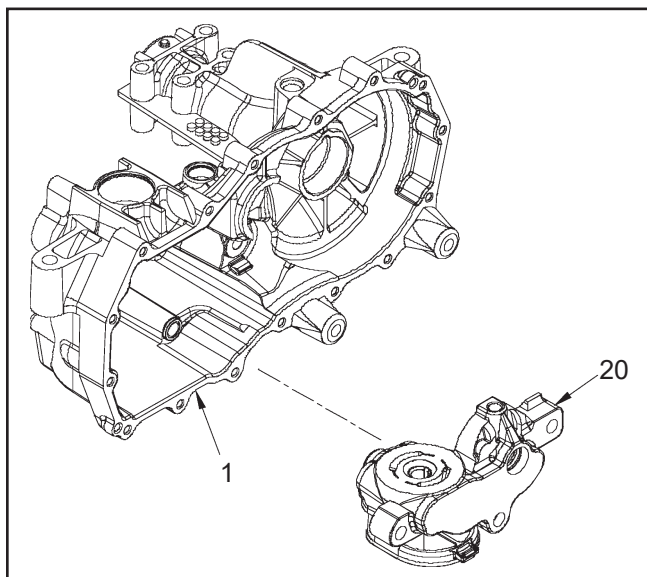
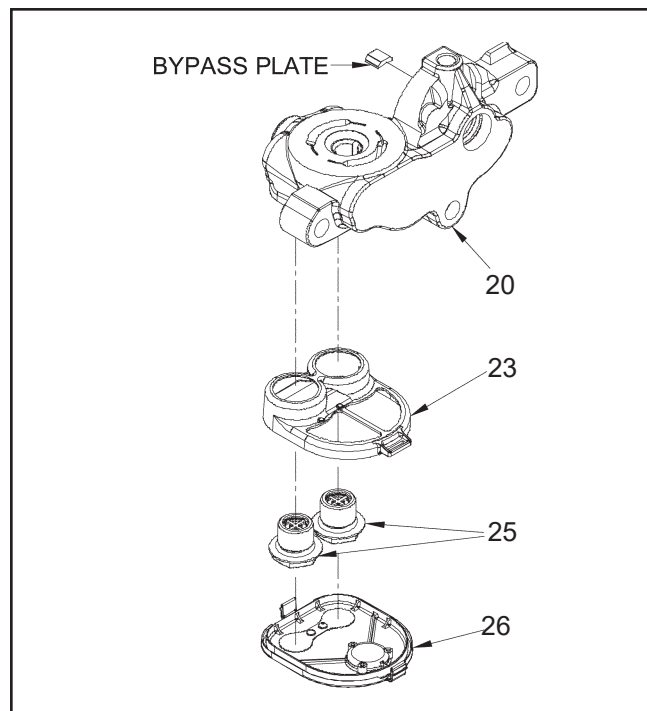

Figure 15.
Figure 16.
13. Remove the center section and filter assembly (20, Figure 15). NOTE: Bypass plate (Figure 16) may slide out of the center section.
15. Note the location of both check plugs (25) before removal for correct replacement during reassembly. Remove and inspect the check plug assemblies (25) for debris or damage.
16. Remove the filter base (23) and discard it. NOTE: The filter base is included in the filter kit to be installed during reassembly of the unit.
3. **(See Figure 16)** Install the new filter base (23) onto the center section (20).
4. It will be necessary to clean the check plugs prior to re-assembly. Install the check plugs (25), in their correct location, into the center section (20). Tighten the check plugs according to Table 2, page 37.
5. Align the tabs on the filter cover with the slots in the filter base and carefully press the cover onto the base until the tabs snap into place. Insure the bypass plate (Figure 16) is located properly in the center section.